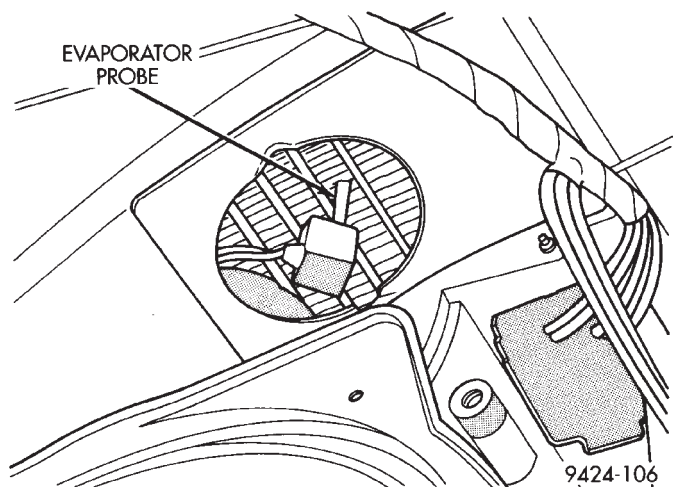

Fig. 45 Evaporator Probe Needle
(1) Install new probe into the evaporator. **The new probe must not go into the same hole (in the evaporator core) that the old probe was removed.** The evaporator is manufactured with three holes for probe insertion. Insert the probe in the uppermost hole (Fig. 45).
- (2) Install evaporator probe access panel.
- (3) Connect probe wiring harness.
- (4) Reconnect battery.